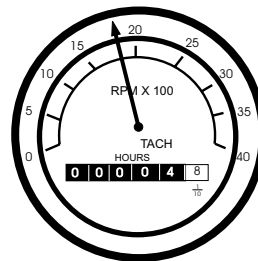

Figure 34. Engine Tachometer Gauge
- The **tachometer gauge** (Figure 34) will indicate the speed of the engine when the generator is operating.